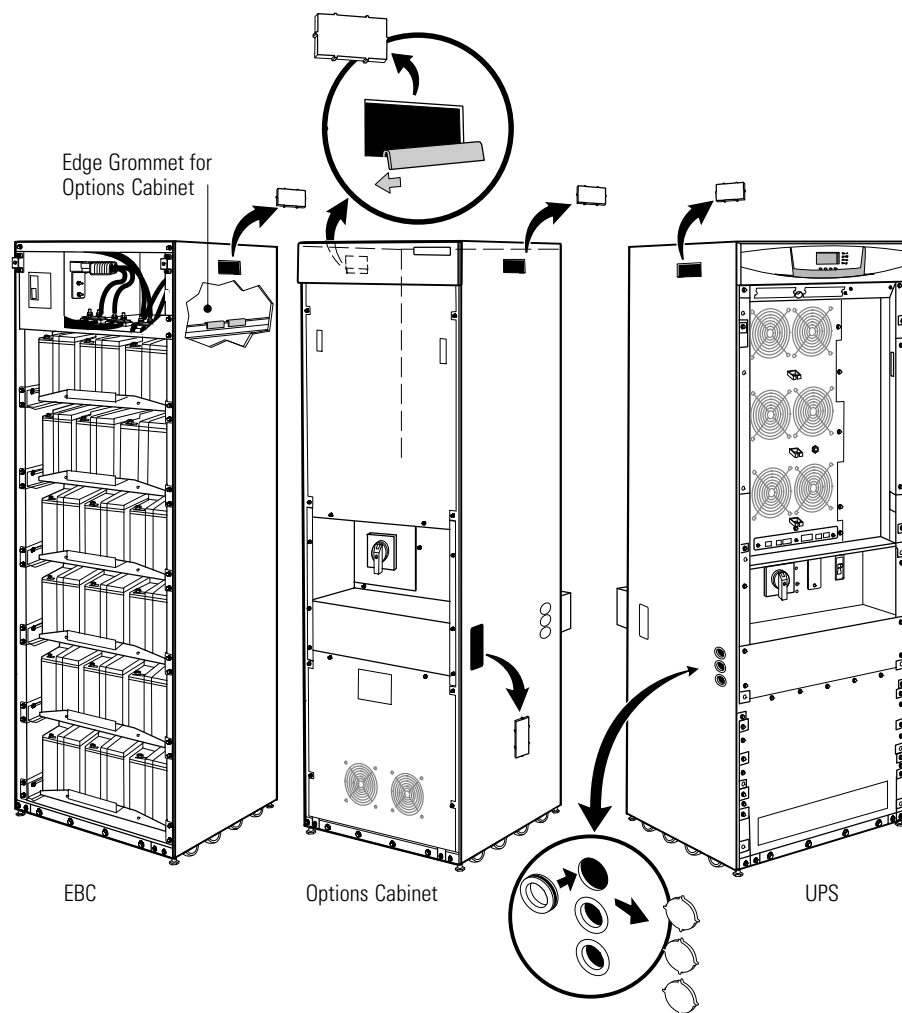

Figure 10. Joining Additional Cabinets (Typical Configuration)
4. Remove the knockout on the top left side of the UPS and the top right side of the EBC (see Figure 10).
6. Remove both knockouts from the top sides of the Options Cabinet (see Figure 10).
9. Remove the three circular knockouts on the left side of the UPS (see Figure 10).